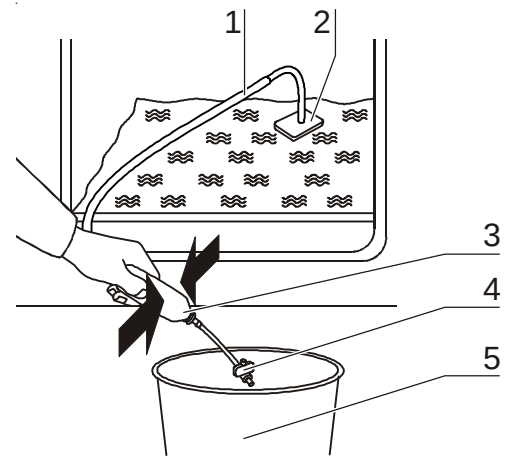

Fig. 33
1. **Fig. 33:** Press suction unit [1] onto floorpan recess.